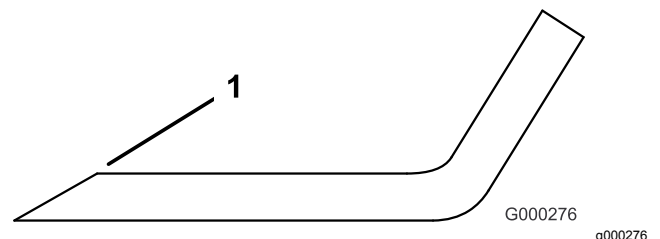

Figure 95
1. Sharpen the cutting edge at both ends of the blade (Figure 95).